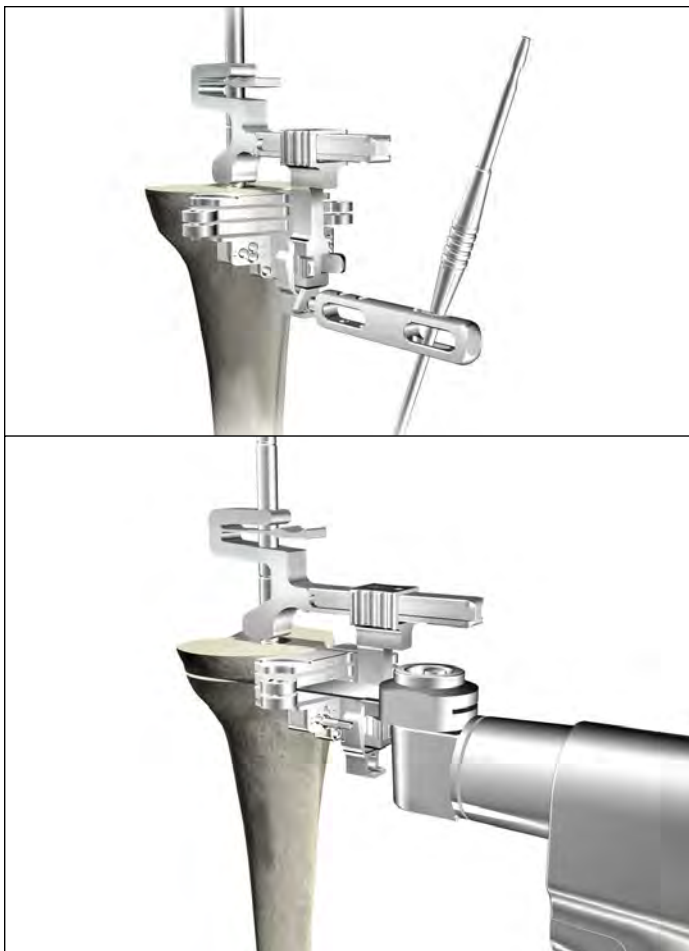

Figure 10
- Use the Stop Plate or place the Bladerunner through the cutting slot to determine the resection level. When appropriate resection level and rotational alignment has been determined, pin the Revision Tibial Resection Guide to the proximal tibia. An Alignment Rod can be used to aid in setting the final component position (**Figure 10**).
- Using a narrow, 15mm - wide, 0.050" thick oscillating saw blade, make a 5mm or 10mm augment resection as appropriate (**Figure 10**).